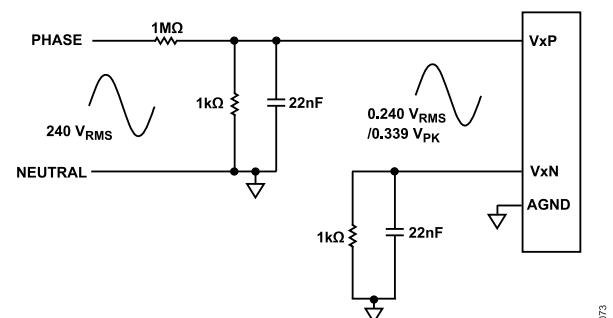
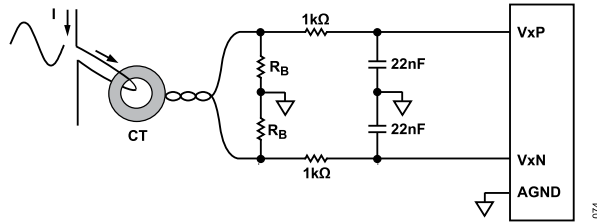
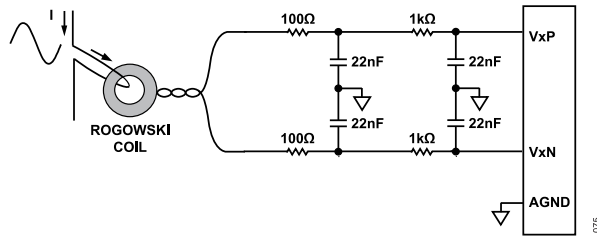

Figure 62. Phase Voltage Sensed Through Resistor Divider, 1x Gain, Pseudodifferential Input
Figure 63. Current Transformer Current Sensor Interface Circuit
Figure 64. Rogowski Coil Current Sensor Interface Circuit
Figure 62 shows an interface circuit to measure the mains voltage that produces a pseudodifferential input signal to the ADC channel. A current transformer (CT) with center tapped burden resistor, as shown in Figure 63 generates differential, antiphase signals at the ADC inputs. Figure 64 shows the recommended circuit to connect to Rogowski coil current sensors.